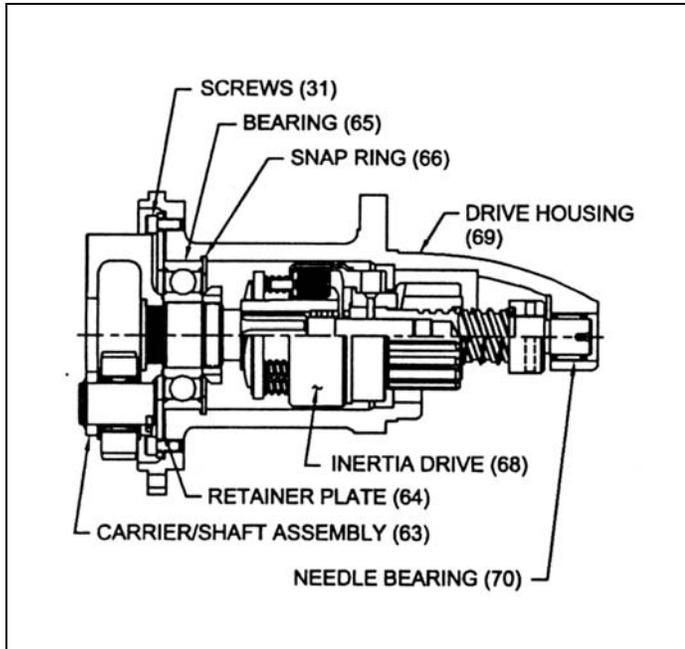

Figure 10. Bendix Drive Removal (T106F/T112F)
Mark position of bendix pinion opening relative to turbine housing (26) for reference during reassembly. Per *Figure 10*, remove the six screws (27). Pull drive housing (69) from turbine housing. If drive housing is too tight, tap it with a mallet to loosen.